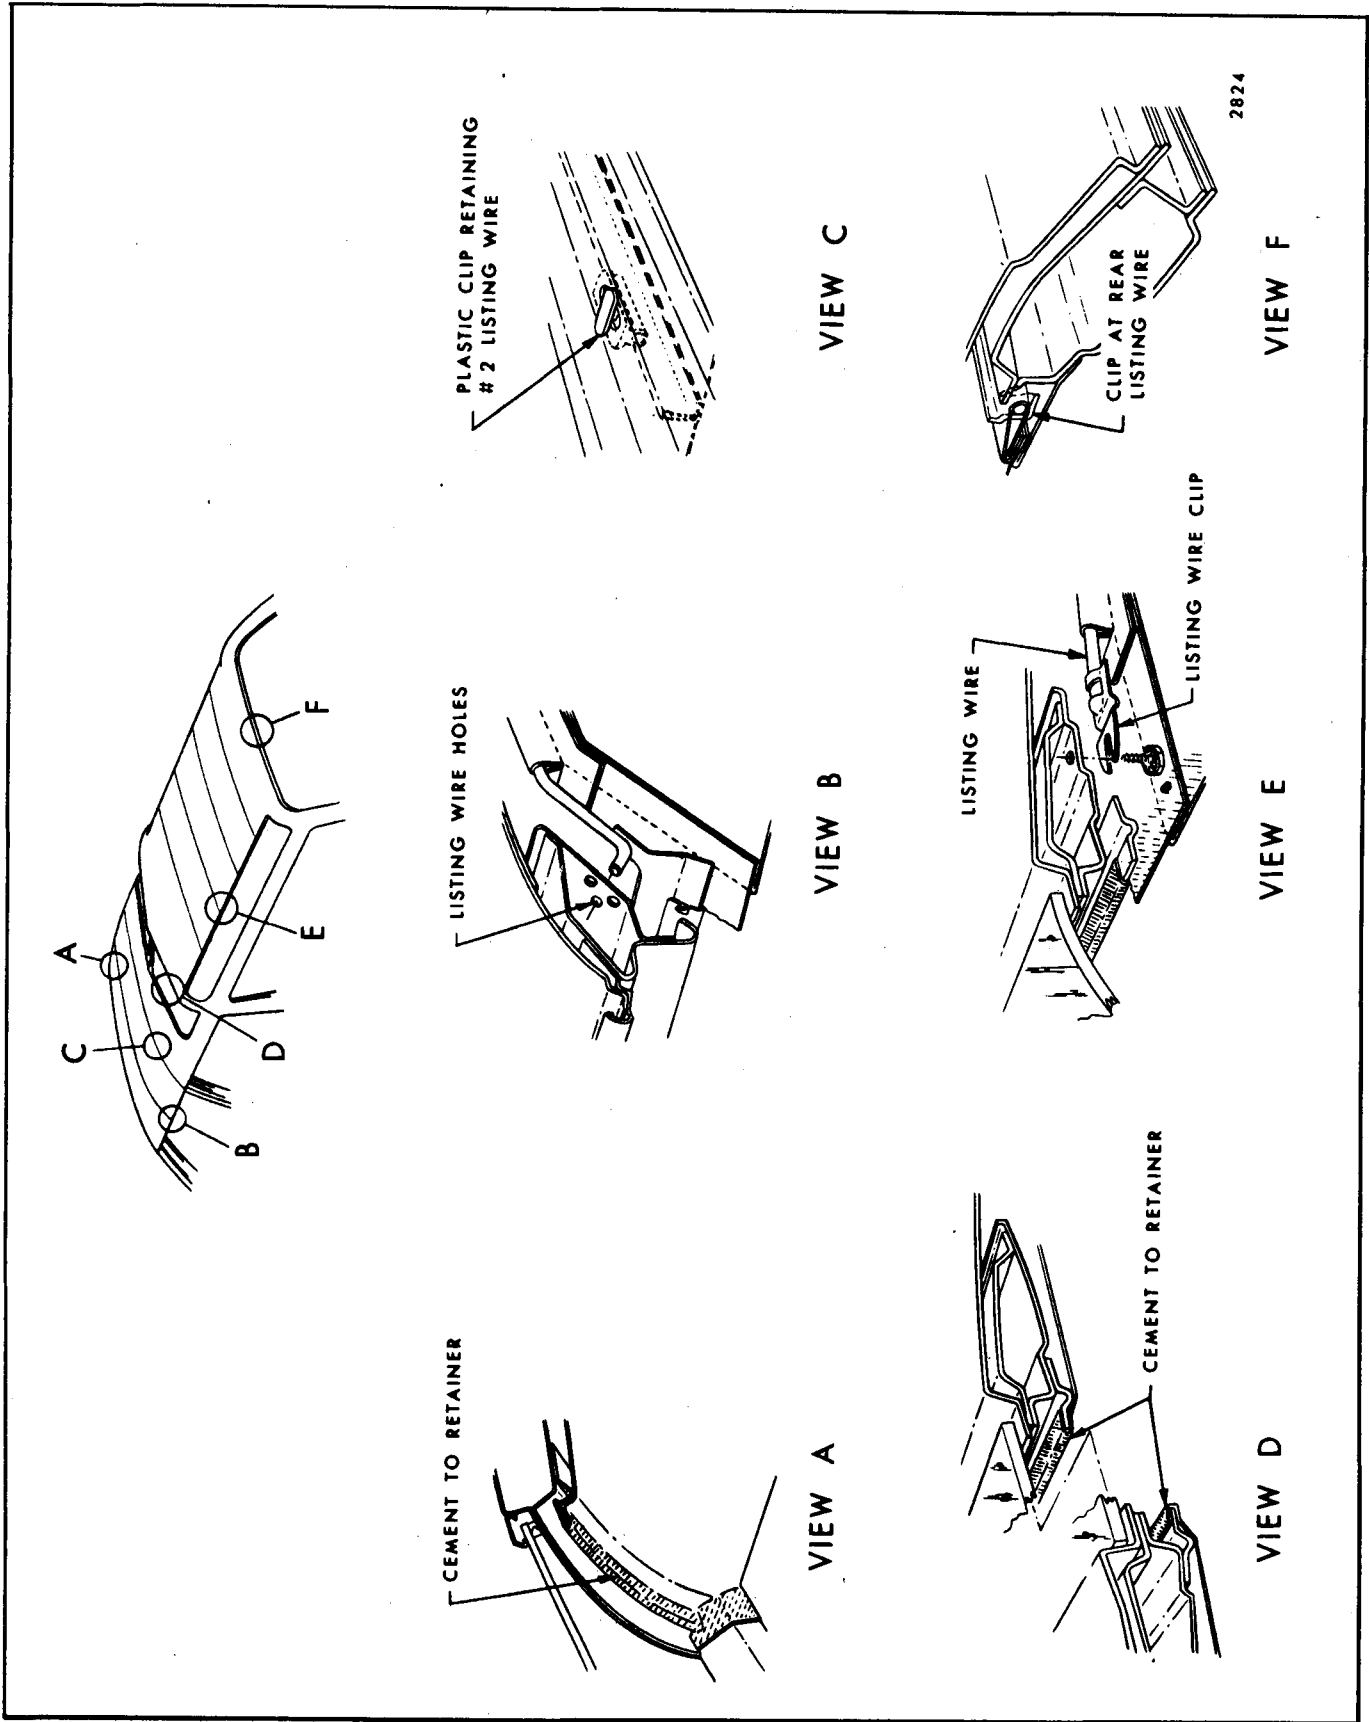

Fig. 10-6-Headlining Installation "56 and 66" Styles
The "56-66" station wagon styles use two separate headlining assemblies which may be removed and replaced separately. The front headlining is formed to the contour of the roof panel by concealed listing wires. The ends of the listing wires are installed into holes in the side roof inner rails, and may be adjusted up and down or fore and aft (View "B", Fig. 10-6).
The headlining material is cemented to metal retainers and side roof rail pinchweld flanges (View "A", Fig. 10-6). Escutcheons, moldings and finishing lace cover the edges and assist in holding the material in place.
The rear headlining is formed to the contour of the roof panel by concealed listing wires. The ends of the listing wires are installed into clips which are secured to the side roof inner rails by screws (View "E", Fig. 10-6). The edges of the material are cemented to the retainer flanges. Finishing lace and moldings cover the edges and assist in holding the material in place.
4. Disengage No. 2 listing wire from plastic clips on structural bow and remove No. 1 and 2 listing wires from inner rails. Gather or roll headlining with listing wires on outside to keep headlining clean and remove old headlining assembly (See Fig. 10-6, View "C").
4. Lift headlining into body, install No. 1 and 2 listing wires into holes in side roof rails and snap No. 2 listing wire into plastic clips on structural bow (See Fig. 10-6, View "B" and "C").
4. Starting at front remove listing wires from roof inner rails (See Fig. 10-6, View "E").
5. At rear listing wire, bend down tabs securing wire to bow (See Fig. 10-6, View "F").
4. Lift headlining into body, install center of rear listing wire over metal tabs at rear bow and bend down tabs (See Fig. 10-6, View "F").
5. Working forward install remainder of listing wires into clips and secure clips to roof (See Fig. 10-6, View "E").